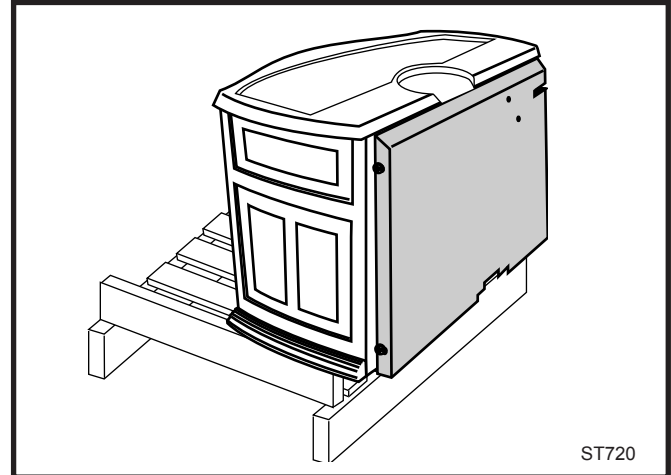

Fig. 13 Slide stove back just far enough to access rear leg holes.
1. Slide stove to the rear of the pallet just far enough to access rear leg holes. Make sure the stove does not tip over backwards. (Fig. 13)